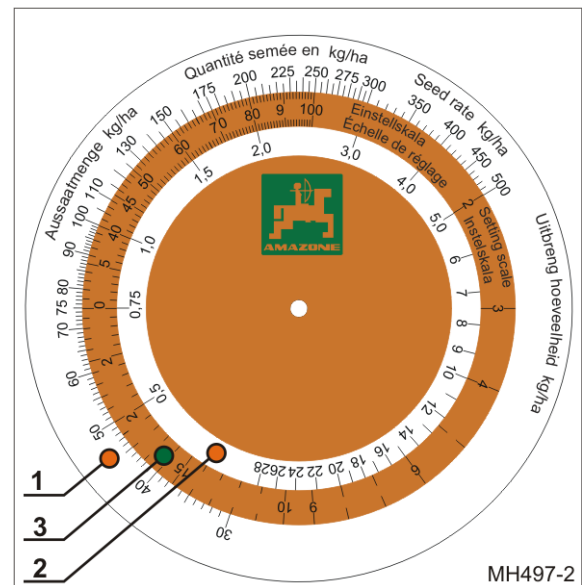

Fig. 68
- an outer white scale (Fig. 68/1) for all sowing rates over 30 kg/ha
- an inner white scale (Fig. 68/2) for all sowing rates below 30 kg/ha
- a coloured scale (Fig. 68/3) with all gearbox settings from 1 to 100.